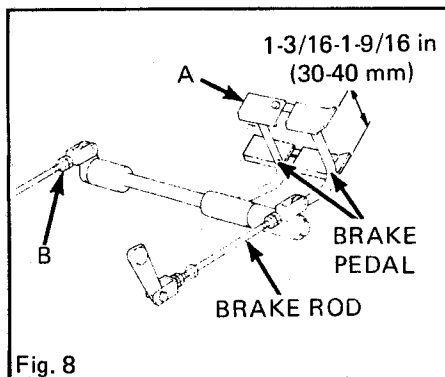

Fig. 8
Each brake pedal (A) Figure 8 should have free play of 1-3/16" - 1-9/16" (30-40 mm). Also check for equal braking action when brakes are connected.
To adjust brakes, loosen two nuts (B) Figure 8, and turn adjusting rod until proper free play is obtained. Tighten both nuts.